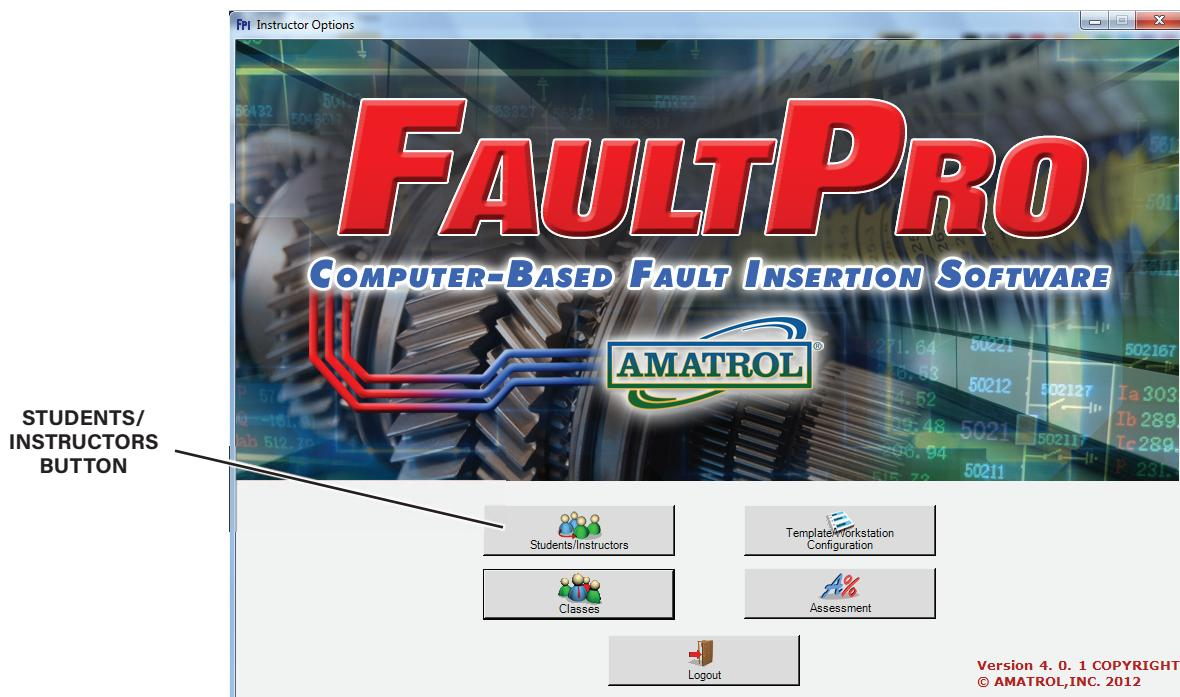

Figure 42. The Instructor Options Dialog
- The Instructor Options dialog should appear, as shown in figure 42.